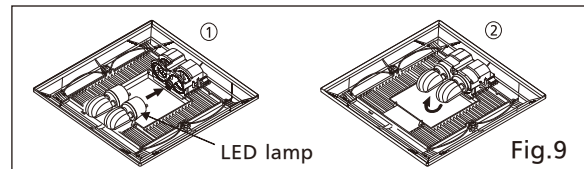

Fig.9
11. Install the LED lamps. (Fig.9)
4. Install the LED lamps (CX-GU24-H-B, 7W) as shown in step ① and step ② of Fig.9 (Page 9).